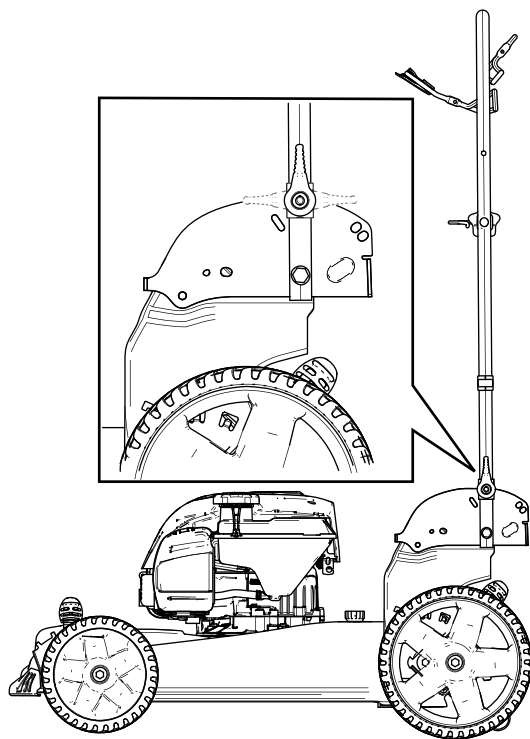

Figure 18
3. Fold the handle forward either to the vertical position or the fully forward position as shown in Figure 18.